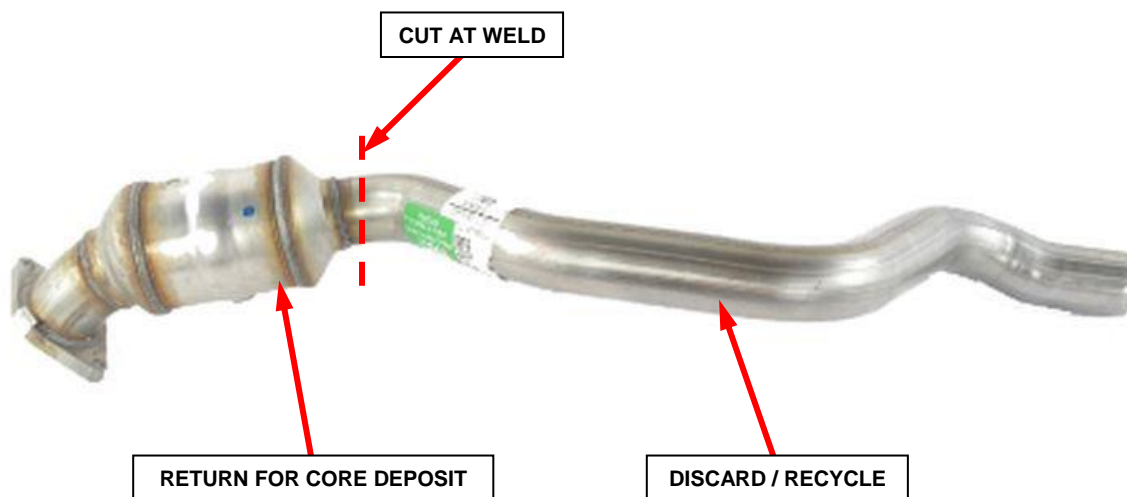

Figure 11 – Remove Pipes from Catalyst for Core Return
1. Cut the outlet pipe off of the catalyst as close to the pipe weld as possible (Figure 11).
2. Return only the catalyst section for core deposit credit. Discard / recycle the pipes cut off of the catalyst section (Figure 11).